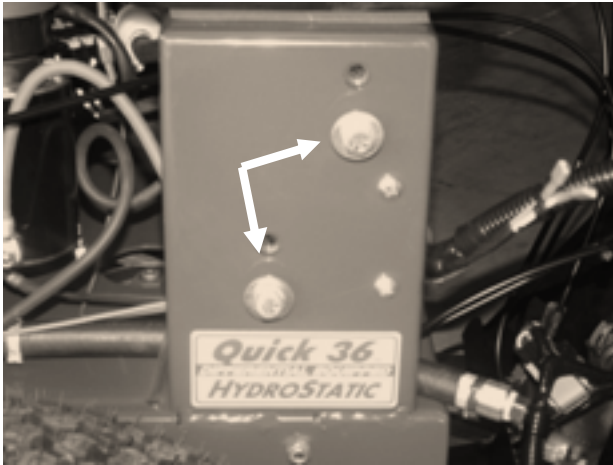

Figure 2
2. Using a 9/16 wrench, remove the four handlebar mounting bolts **Figure 2**.